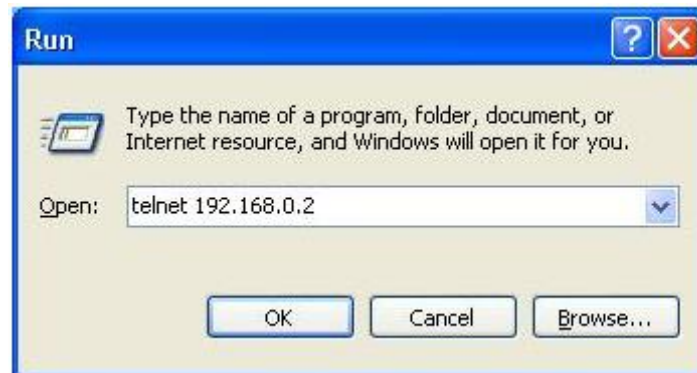

Figure 22 Access through Telnet
Step 3: Click OK. The Telnet CLI is displayed. Then you can run the commands in Figure 22 to perform operations.